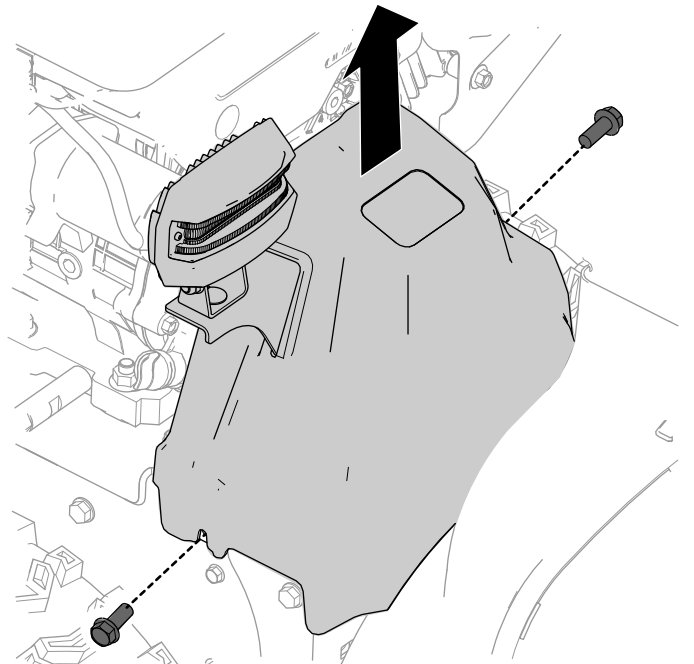

Figure 6
1. From the front side of the machine, remove the 2 screws (1/4 x 5/8 inch) securing the belt cover to the machine (Figure 6).
3. Remove the belt cover (Figure 6).